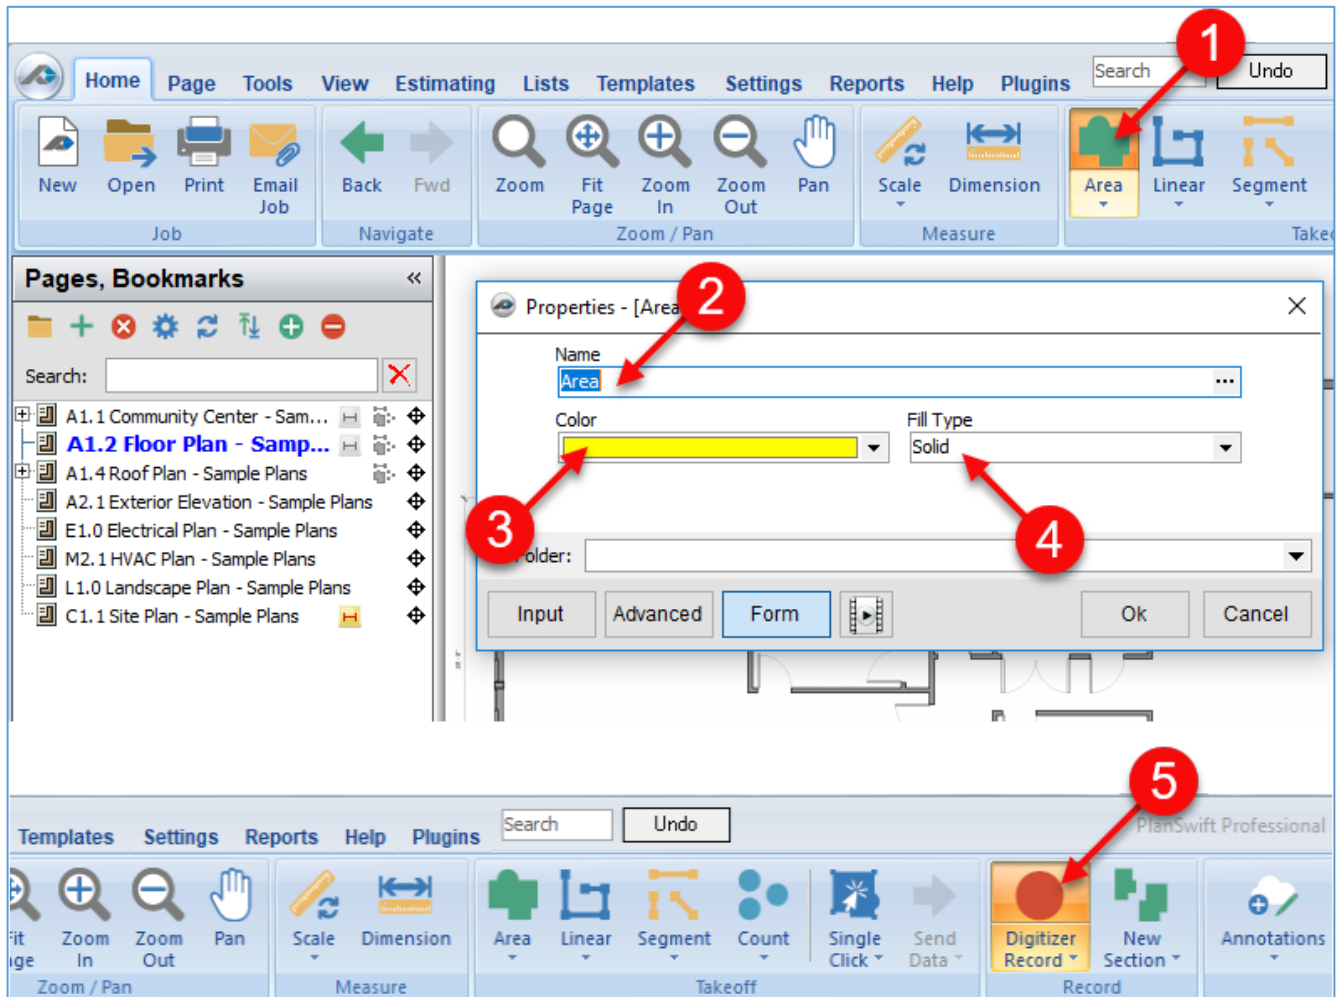

Figure 10-A
6. Click where you want the **Area** takeoff to begin. This will establish the first **Point**, which is the starting **Point** of the takeoff item (Fig. 10-B).